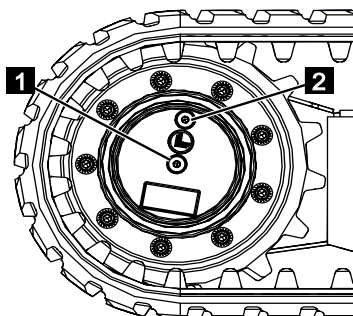

Fig. 251
4. Unscrew the screw connections (Fig.251/1 and 2).